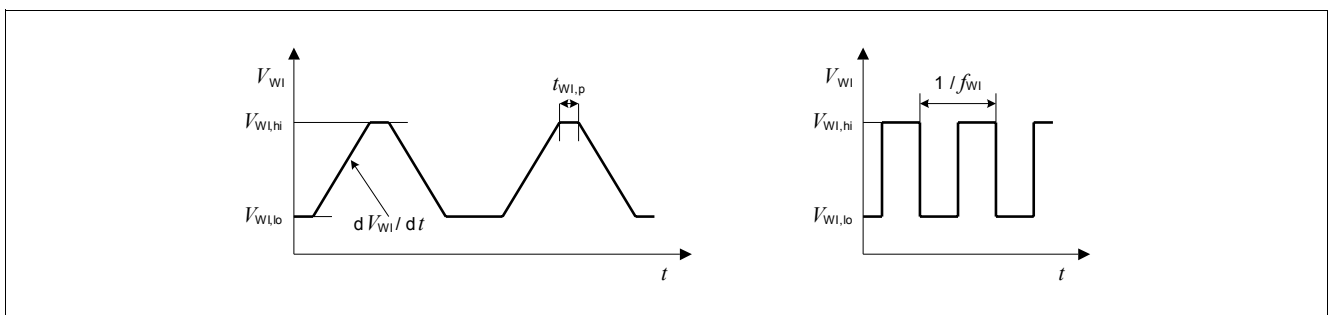

Figure 11 Test Pulses Watchdog Input WI
The watchdog is triggered by a positive edge at the watchdog input “WI”. The signal is filtered by a bandpass filter and therefore its amplitude and slope has to comply with the specification Item 8.2.10 to Item 8.2.14. For details on the test pulse applied, see Figure 11.
- 2) For details on the test pulse applied, see **Figure 11**.